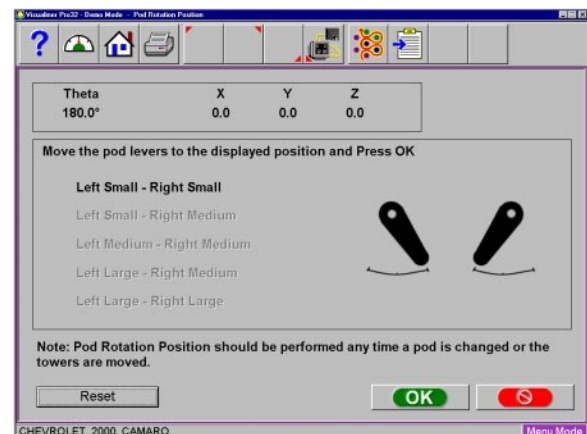

Figure 5-17
2. Adjust the camera lever's to the illustrated position shown on the screen and click on <OK>. (Figure 5-17)